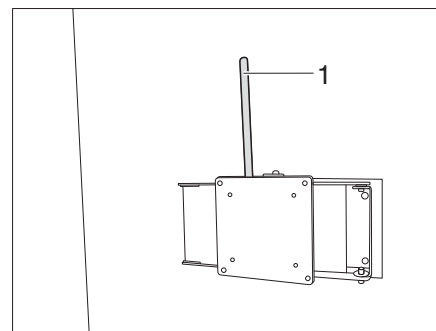

Fig. 135 Holder with jointed arm (variant 4)
- Pull the lever (Fig. 135,1).
- Push the lever (Fig. 135,1) back up into the initial position to lock.